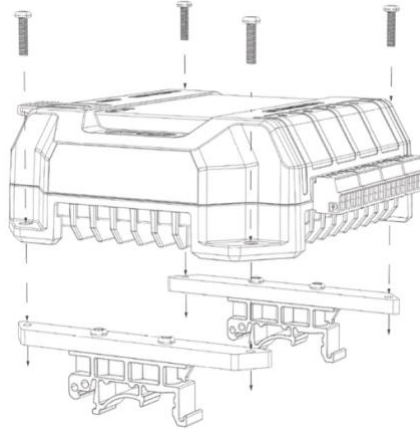

Figure 3 - PX24 DIN Rail bracket
1. Align the controller's mounting holes with the outermost mounting holes on each bracket. Using the four supplied M3, 12mm long screws, assemble the controller to the mounting brackets, as shown in Figure 3 below.